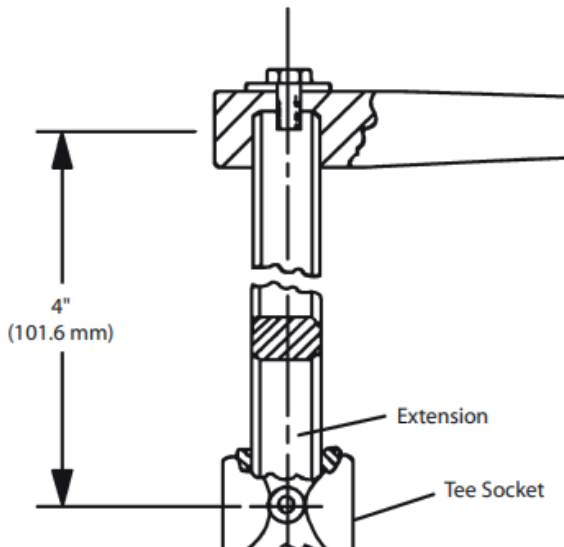

Figure 2.
3. Remove the lever handle or "T" socket and pipe handle, depending on valve style. (See Figures 2 and 3).